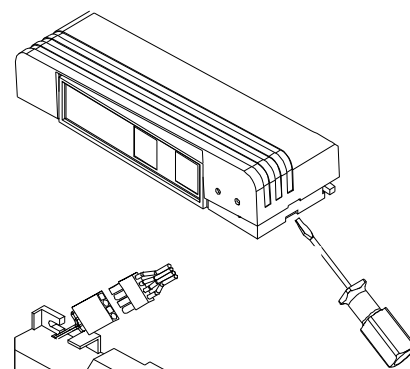

Fig. 1
- 1: Remove the plastic cover using a screwdriver and lifting upwards and outwards (see Figure 1).